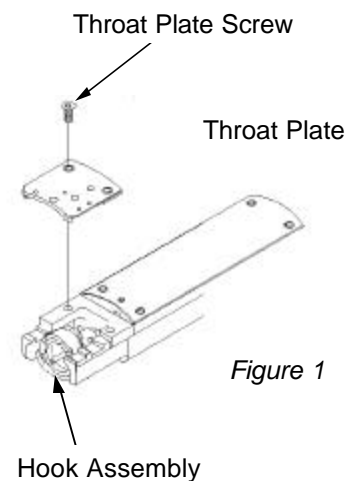

Figure 1
4. Using 2.5mm hex key, remove throat plate screws and throat plate. *See figure 1*